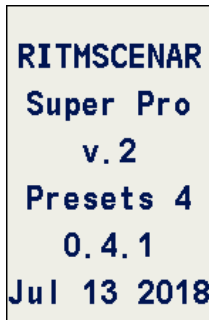

Fig.15
5.2 Open the battery compartment cover and install the batteries. Switch the device on using the switch button on the lateral panel. A message containing the information about the device's name, version and its software release date (Fig.15) will be displayed for 2 seconds and a beep will sound.